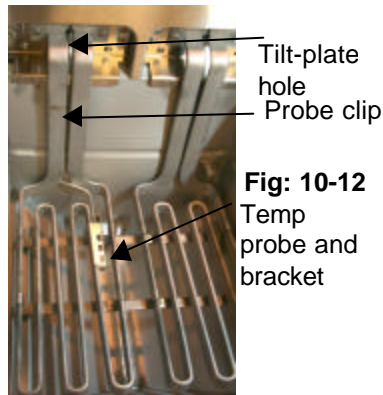

Fig: 10-13
7. Thread the wires through the hole in the tilt plate assembly on the surface ship fryers and through the access hole near the fixed elements on the sub fryer. **Fig: 10-13.** Remove the probe and the securing components from the element.